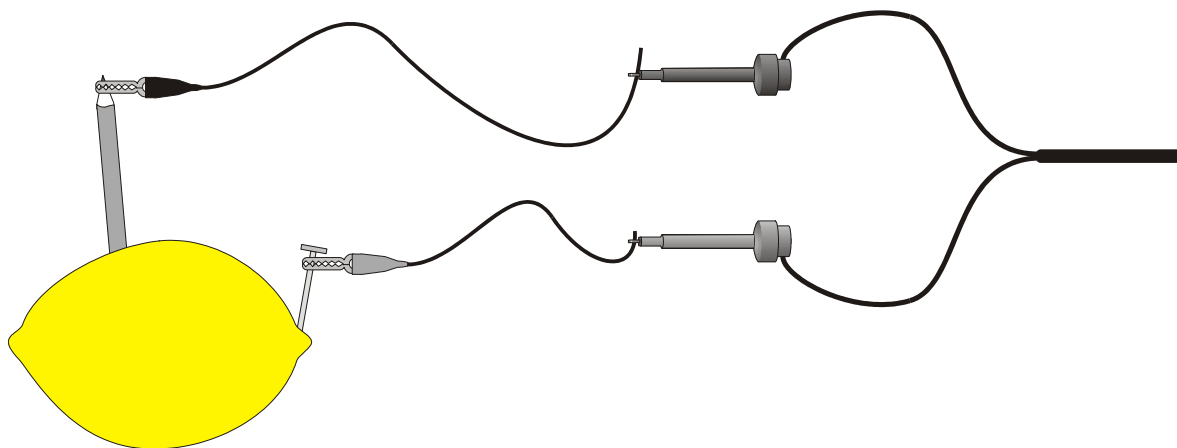

Figure 1
2. Attach the red Voltage Probe lead to one alligator clip and the black probe lead to a second alligator clip as shown in Figure 1. You will be attaching the alligator clips to the test materials during this experiment in order to prevent corrosion of the Voltage Probe leads.